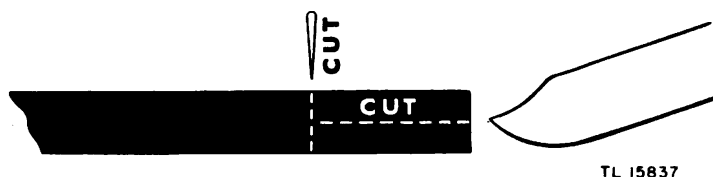

Figure 12. Removing vinyl jacket from coaxial cable.
c. Remove $1\frac{1}{8}$ inches of the outer vinyl jacket from the cable (fig. 12). Do not cut too deeply or the braid will be damaged.